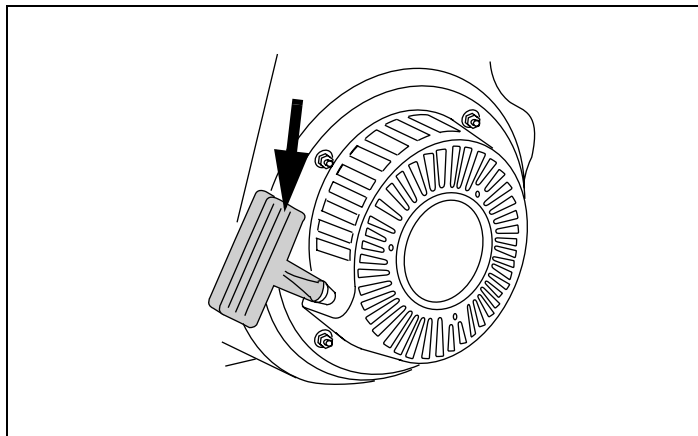

Figure 29. Starter Cord Handle
5. Grasp starter cord handle. See Figure 29.